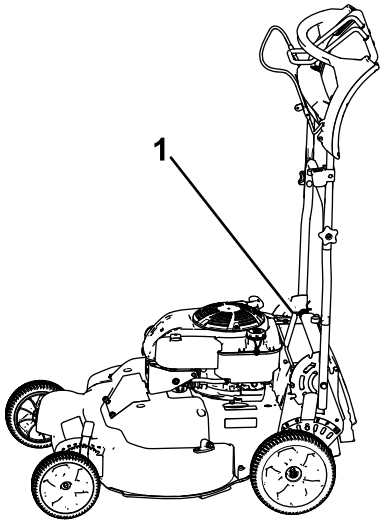

Figure 38
1. Lock the handle in the vertical position (Figure 38); refer to Adjusting the Handle Height (page 12).